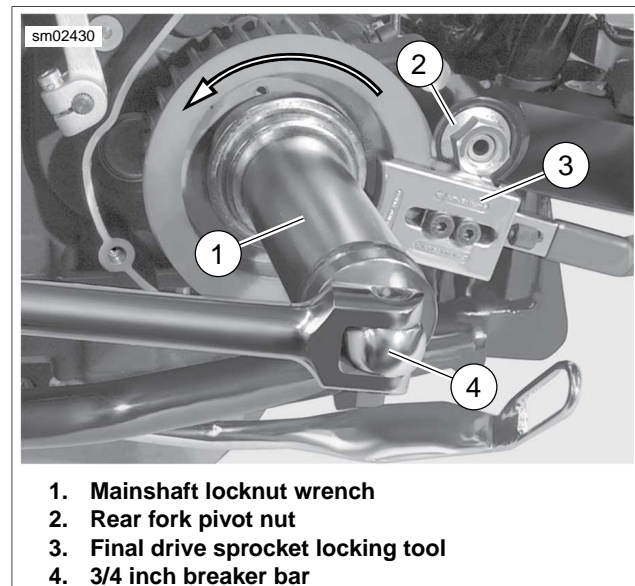

Figure 6-40. Sprocket Nut Removal (Typical)
- b. See Figure 6-40. Secure sprocket using FINAL DRIVE SPROCKET LOCKING TOOL (Part No. HD-46282)(3). Final drive sprocket locking tool must rest against lower portion of rear fork pivot nut (2).